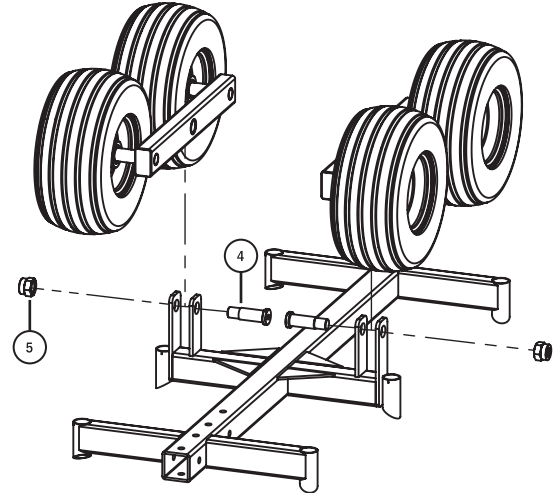

Fig. 3
**Step 6: Assemble the Tandem Trundle Axles (1) to the Trailer Frame.** Assemble the Tandem Trundle Axles from the previous step onto the Trailer Frame (144) as shown in **Fig. 3**. Although the Trundle Pivot Pin (4) can be installed with the threaded portion on either the inside or outside of the trailer, it is recommended they are installed with the threaded portion on the outside for the maximum clearance between the axles. Because the Tandem Trundle Axles (1) require free movement, the Nut (5) need only be tightened until it bottoms out on the Pivot Pin shoulder.